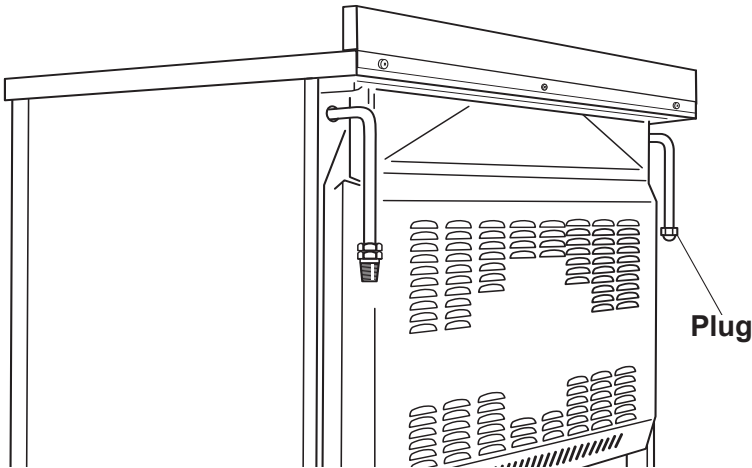

Fig. 8.1
- The gas supply is connected at the rear of the cooker to the right or left terminal of the gas inlet pipe (fig. 8.1). The connection pipe must not cross the rear of the appliance.